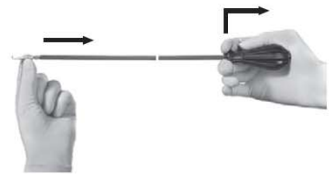

Fig. 6
- Pull back shaft 4 towards the handle 2 until the collet adapter 1 is fully displayed, see Fig. 6.